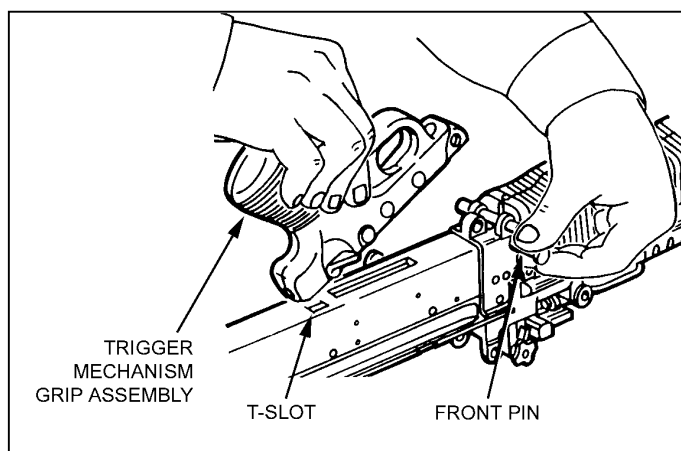

Figure 2-15. Replacing the trigger mechanism grip assembly.
b. **Replacing the Trigger Mechanism Grip Assembly.** To replace the trigger mechanism grip assembly, the gunner positions it on the bottom of the receiver, aligns it with the T-slot, and installs the front pin from the left side. He slides the slotted end of the flat leaf spring on the front pin. (The hooked end of the flat leaf spring should bend outward.) He pushes down and slides the hooked end of the flat leaf spring onto the grooved pin (Figure 2-15).